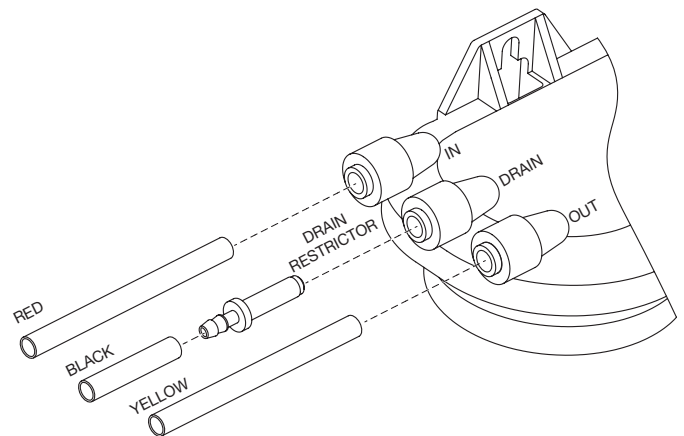

Figure 4: Feed Water Tubing
2. Locate the 1/4" (0.6 cm) Red Feed Water Tubing as shown in Figure 4. Remove the red plug from the fitting labeled "In" on the manifold and insert the tubing. Reference the special supplement sheet in the carton for proper connection of all tubing and removal of plugs. Run the tubing along its course to the Feed Water connection, trim to length.
4. Locate the 1/4" (0.6 cm) yellow tubing with the tee attached to one end as shown in Figure 4. Remove the yellow plug from the fitting labeled "Out" on the manifold and insert the tubing.